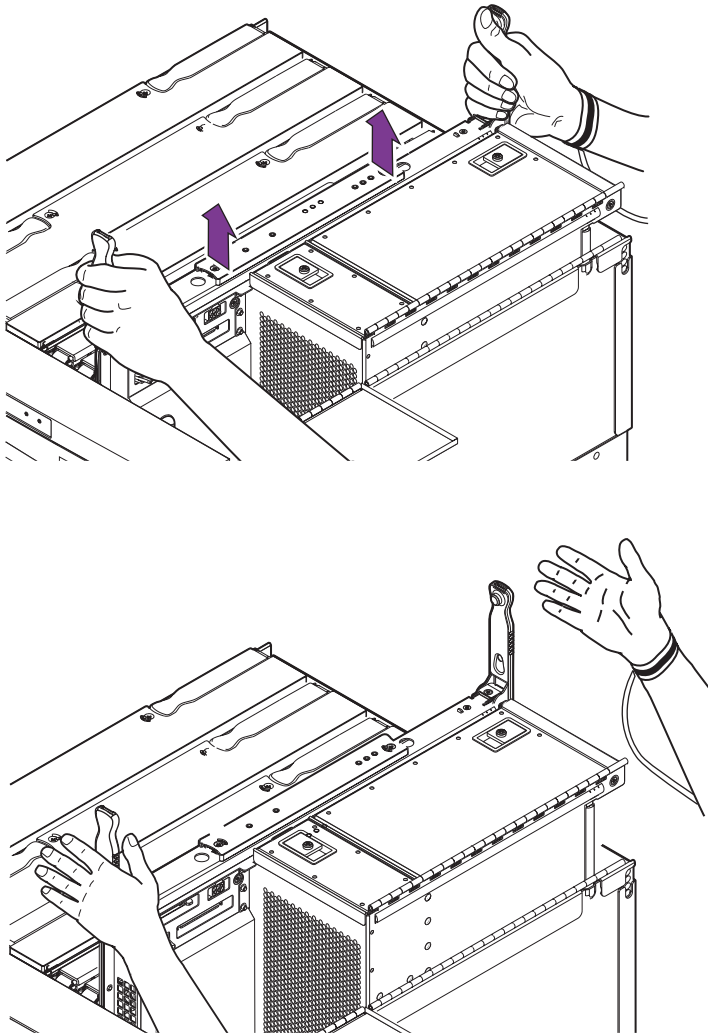

FIGURE 10-5 Raising the IB_SSC Assembly Halfway Using the Antigravity Guides
13. Grasp the ejector levers and pull to raise the IB_SSC assembly until the green panels are visible (FIGURE 10-5).
4. **Hold the green side panels and gently insert the assembly into the grooves until the antigravity clutch is engaged (FIGURE 10-5).**